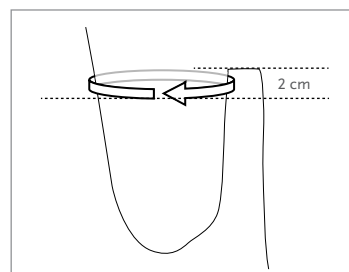

Fig. 1
1. Measure the circumference 1-2 cm below the level of ischial tuberosity (see fig.1)